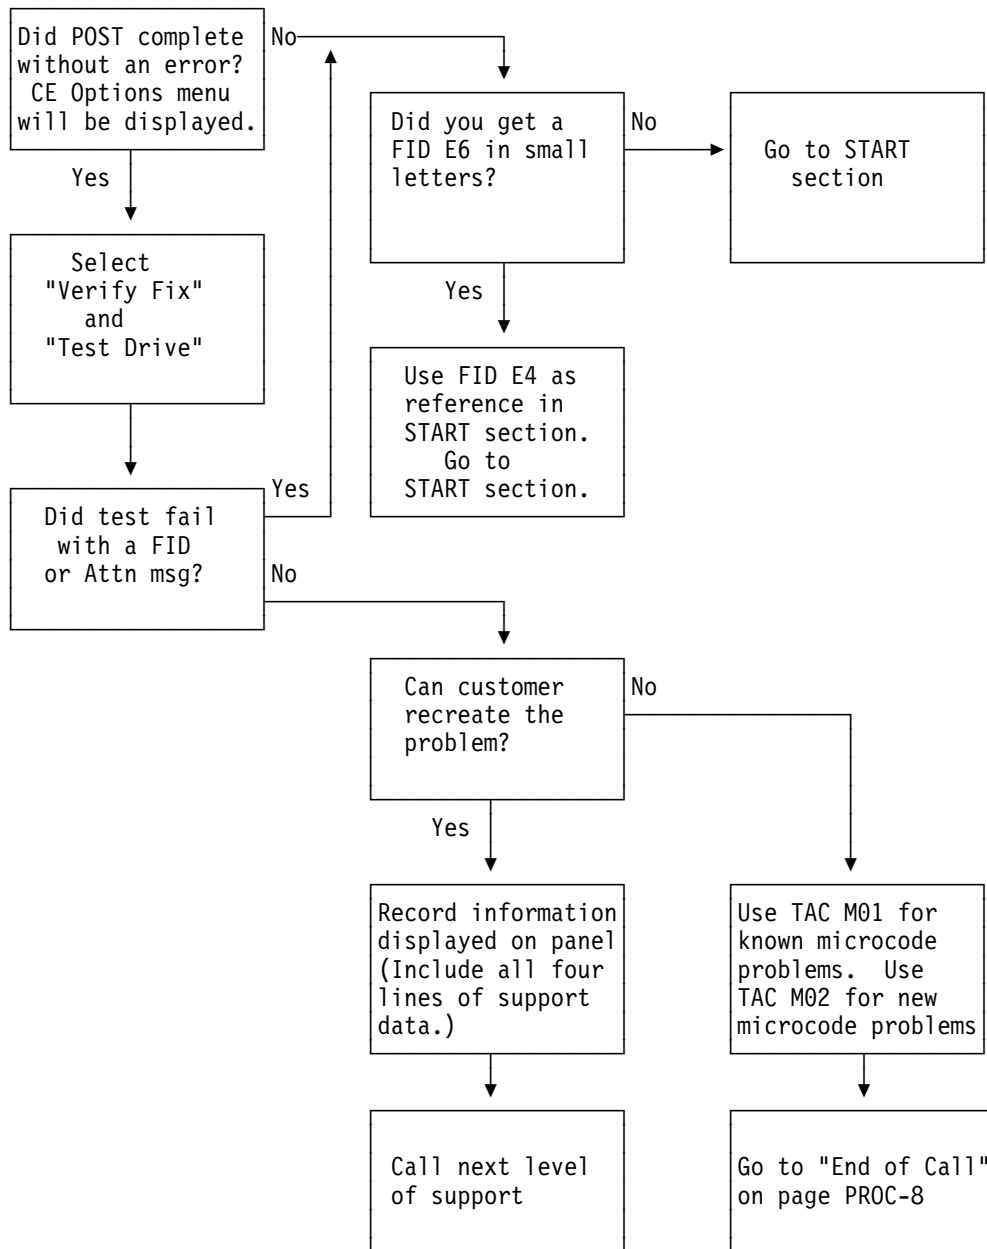

Figure 275. Flow Diagram for FID E6 in Small Letters
3. See Figure 275 on page PROC-95